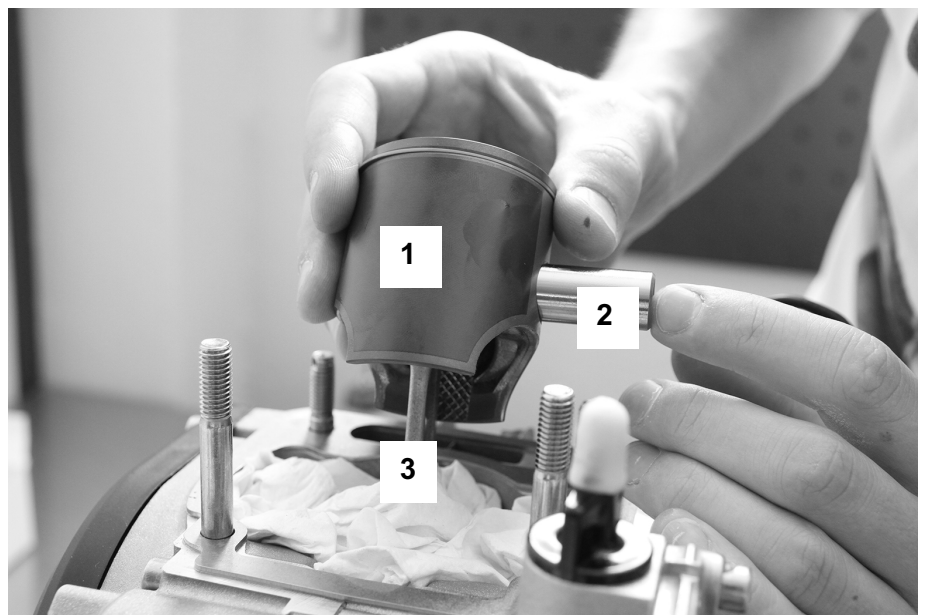

Fig. 31 (K00335)
- ➔ Install the piston (1) and piston pin (2) to the conrod (3). See Fig. 31